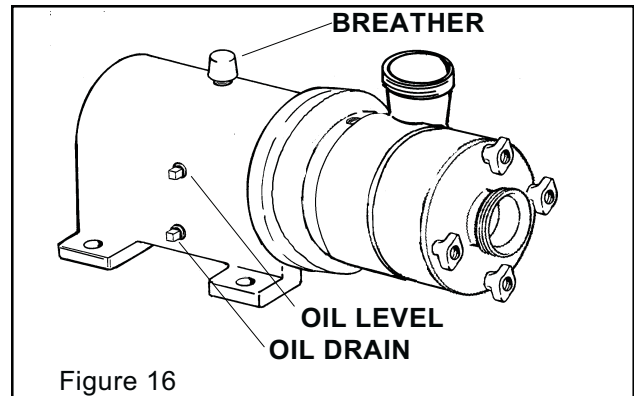

Figure 16
7. **Drain oil from gear case.** (Figure 16)